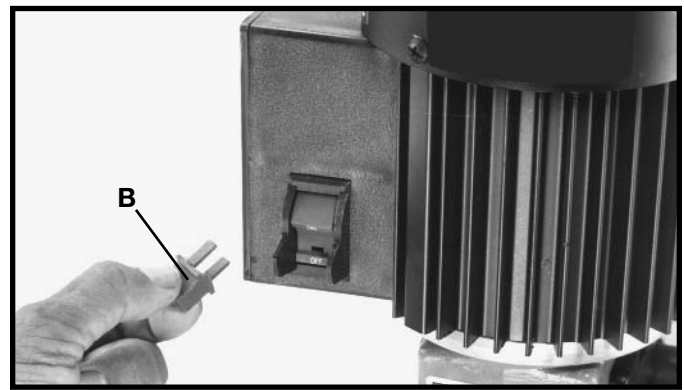

Fig. 27
When the tool is not in use, the switch should be locked in the **“OFF”** position to prevent unauthorized use. This can be done by grasping the switch toggle (B) Fig. 27, and pulling it out of the switch, as shown. With the switch toggle (B) removed, the switch will not operate. However, should the switch toggle be removed while the machine is running, the switch can be turned **“OFF”** once, but cannot be restarted without inserting the switch toggle (B).